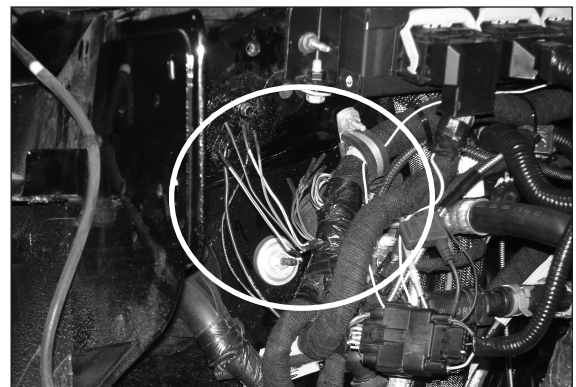

Figure 15
9. MY2013-MY2019, the Ford SEIC blunt-cut customer service wires are located under hood, on the right (passenger) side of the engine compartment, below the cowl (**Fig. 15**).